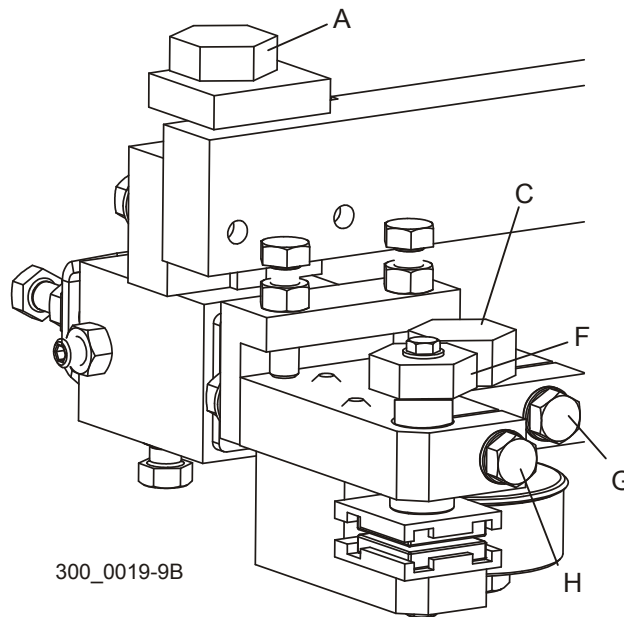

FIG. 7-3
See Figure 7-3. Adjust the blade guides so they do not touch the blade in any way. Loosen clamp bolt (H) and turn the top guide block bolt (F) counterclockwise to raise the top guide block off the blade. Turn blade guide assembly bolt (A) counterclockwise to move the bottom guide block down off the blade. Check that the blade guide roller does not touch the blade. Loosen clamp bolt (G) and turn roller bolt (C) if necessary to move roller away from blade.